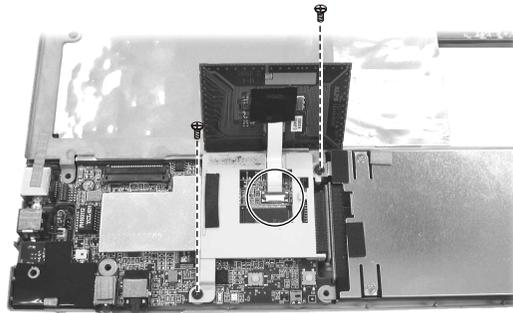

Figure 2-17 Remove the touch-pad and holder
3. Lift up the touch-pad board, and disconnect the cable from the system board. (See Figure 2-17)
4. If you need to remove the touch-pad holder, remove two screws. (See Figure 2-17)